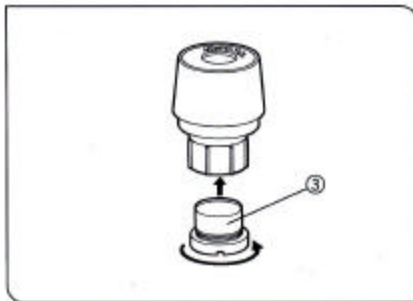

Fig. 4
1. Unscrew the micrometer mounting frame ③ from the eyepiece by turning counterclockwise.
2. Place a micrometer disc into the frame. The engraving on the micrometer disc should face downward into the micrometer mounting frame ③. (Fig. 4)
3. Screw the micrometer mounting frame back into the eyepiece tube. (Fig. 4)